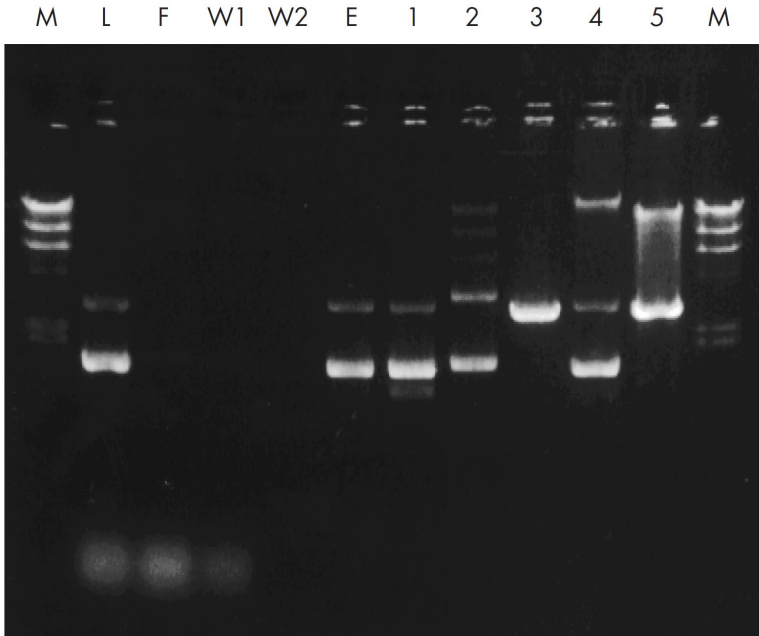

Figure 3. Agarose gel analysis of the plasmid purification procedure.
- a) Dimer form of plasmid Dimers or multimers of supercoiled plasmid DNA are formed during replication of plasmid DNA. Typically, when purified plasmid DNA is electrophoresed, both the supercoiled monomer and dimer form of the plasmid are detected upon ethidium bromide staining of the gel (see Figure 3, page 48). The ratio of these forms is often host dependent.
- b) Plasmid has formed denatured supercoils This species runs faster than closed circular DNA on a gel and is resistant to restriction digestion (see Figure 3, page 48). Do not incubate cells for longer than 5 min in Buffer P2. Mix immediately after addition of Buffer P3.
Run 2 μ l of each sample on a 1% agarose gel* for analysis of the fractions at each stage of the plasmid purification procedure. Figure 3 shows an analytical gel of the different fractions, together with examples of problems that can arise at each step. If you find that you have a problem with a particular step of the protocol, turn to the hints in the relevant section of the “Troubleshooting Guide”, page 43. If the problem remains unresolved, or if you have any further questions, please contact QIAGEN Technical Services via support.qiagen.com.